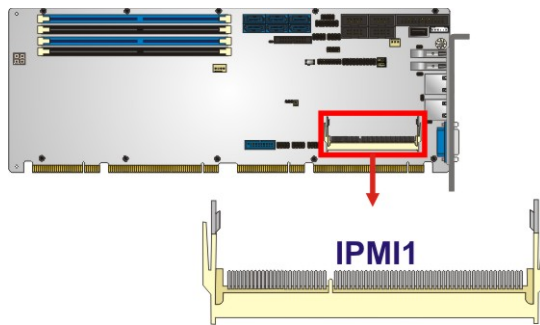

Figure 3-15: iRIS-2400 Module Slot Location
- CN Location:** See **Figure 3-15**